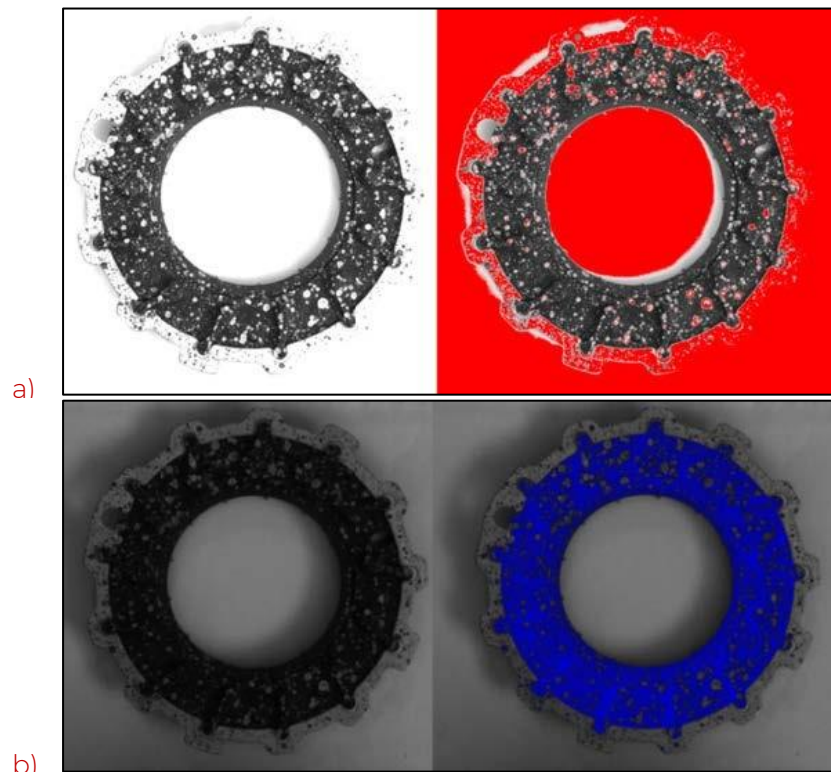

Figure 26: The colouring of a) overexposed areas, b) underexposed areas
- ❖ **Show Clippings and Histogram**  – Clippings mark the overexposed / underexposed areas with a red/blue color, as shown in Figure 26. Both overexposed and underexposed areas of the image cause loss of information and are therefore unsuitable for forming places upon which the measurements take place. The button also displays a histogram which is not shown in the figure below.